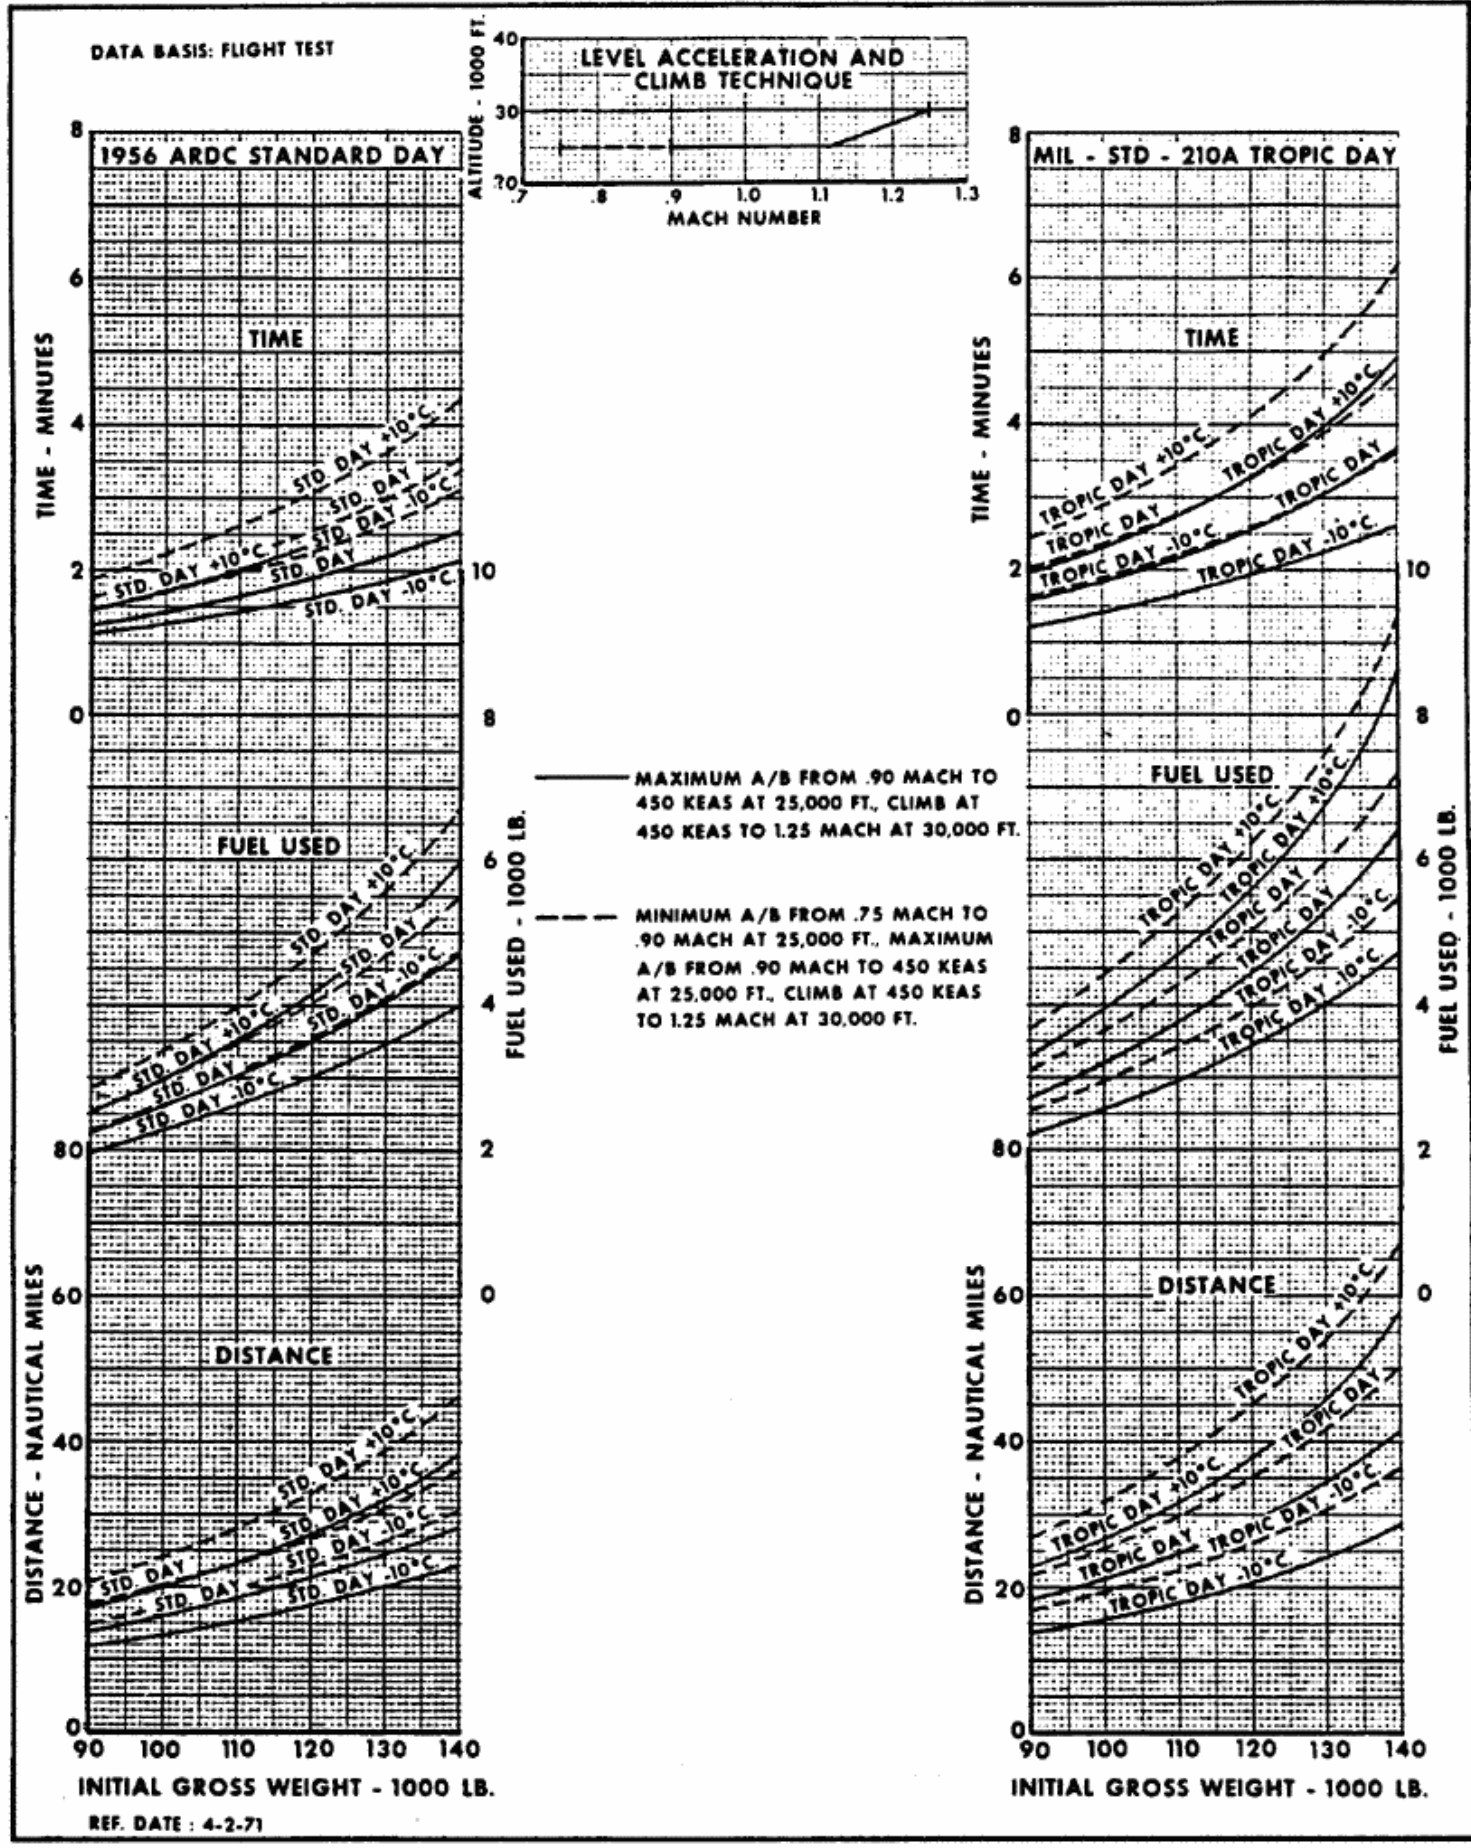

Figure A3-7
3. Level acceleration and climb: Accelerate from Mach 0.90 to 450 KEAS at 25,000 feet and climb at 450 KEAS to Mach 1.25 at 30,000 feet. (See Figure A3-7.)